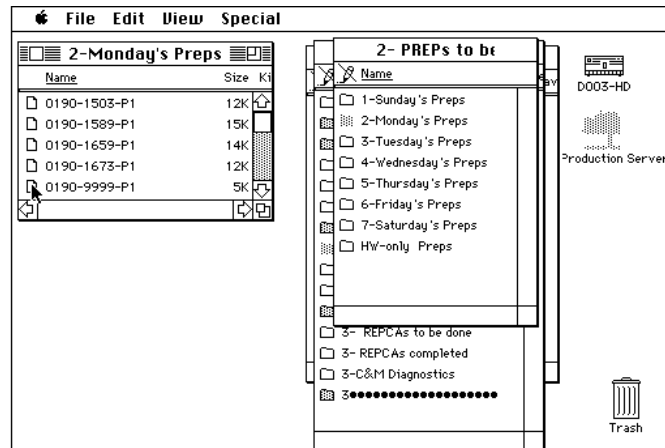

Figure 7
- 10.3 Position the mouse pointer on the appropriate test number and double click to open it. See Figure 7. If the test number cannot be located, contact the VT senior technician.